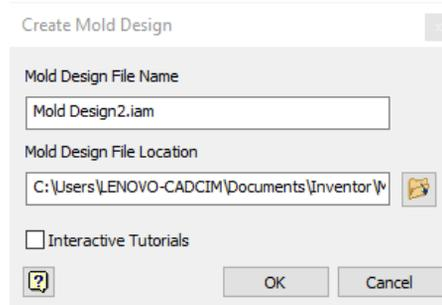

Figure 19-45 The *Create Mold Design* dialog box
2. Double-click on the **Mold Design (mm).iam** option; the **Create Mold Design** dialog box will be displayed, as shown in Figure 19-45.